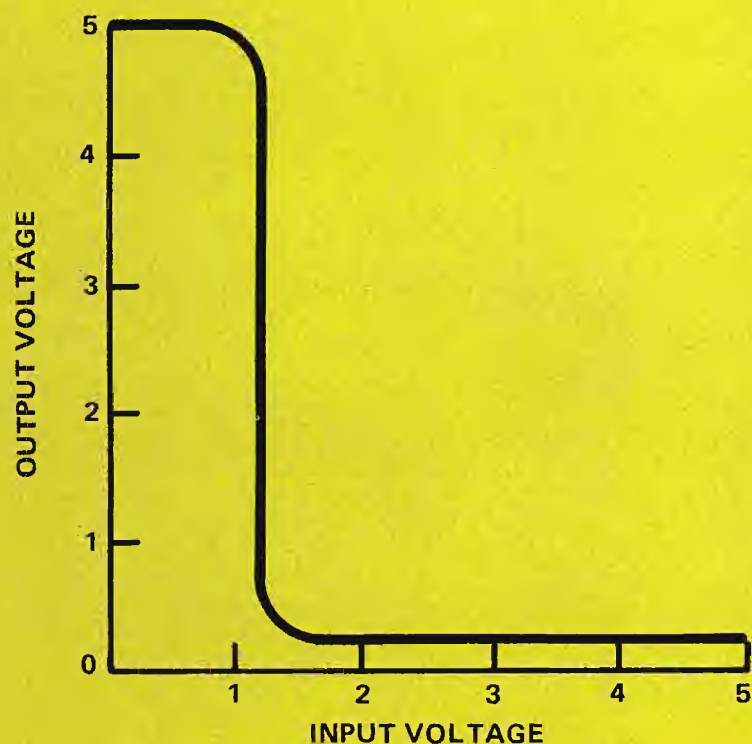

Fig. 4. Typical Transfer Characteristic for a DTL Inverter
A typical transfer characteristic for a DTL inverter is shown in Fig. 4. If the input terminal is held at or near ground potential, the output voltage will be at the HIGH level of nominally 5 volts. When the input voltage rises to about 1.2 volts, however, the voltage at internal point (B) in Fig. 3 rises to about 1.8 volts, and this is high enough to turn on the combination of Q1, D2 and Q2, causing the output voltage to fall to about 0.2 volts. (The output voltage remains slightly above ground potential because of the saturation resistance of Q2.) The voltage swing at the output terminal between the HIGH and LOW logic states will decrease as a function of the current drawn from the terminal in the HIGH state and the current passing into the terminal in the LOW state. The precise location of the switching threshold along the input voltage axis varies slightly between different units and is somewhat temperature sensitive.